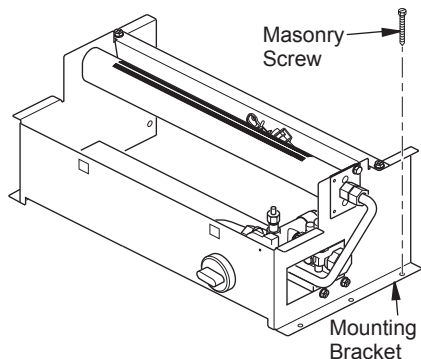

Figure 12 - Attaching Base Assembly to Fireplace Floor
7. Mark screw locations through holes in mounting brackets (see Figure 12). If installing in a brick-bottom fireplace, mark screw locations in mortar joint of bricks.
10. Attach base assembly to fireplace floor using two masonry screws (in hardware package) (see Figure 12).